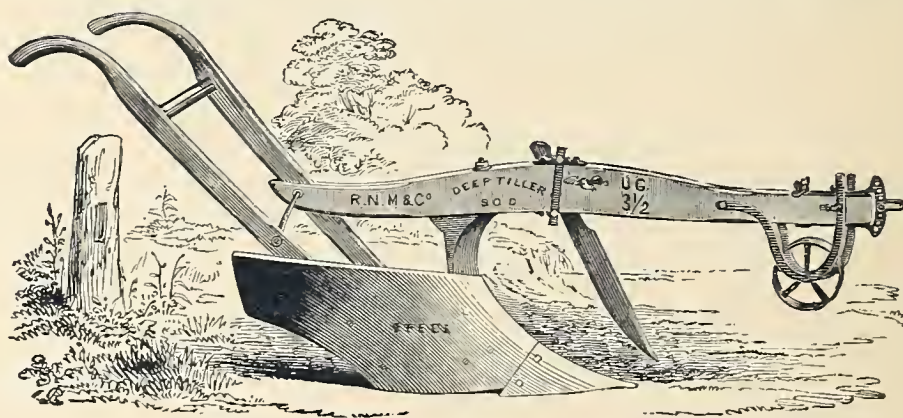

Fig. 266.—Boston Steel Clipper Plow, U G 3 1-2.
*Boston Steel Clipper Plow, U G 3 1-2, represented by Fig. 266, is of easy*